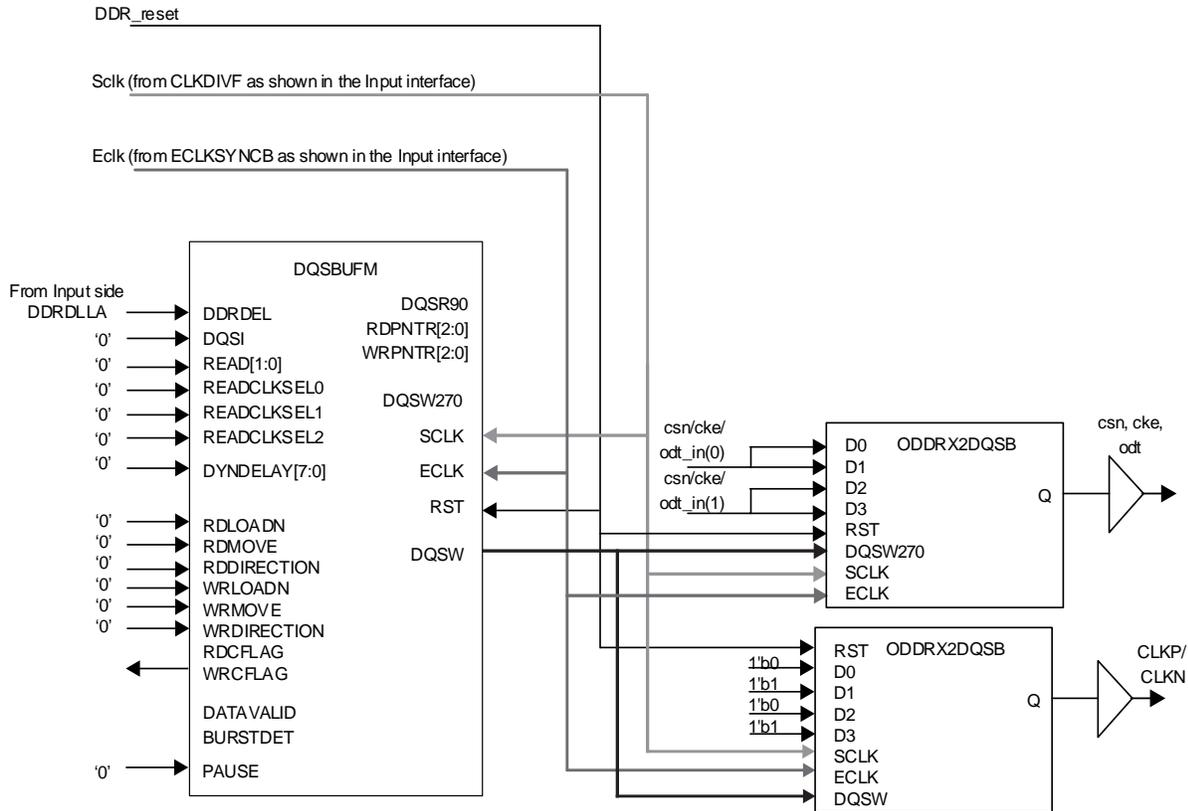

Figure 6.13. LPDDR4 Output for CSN, CKE, and CLOCK Generation
- ODDR2DQSB with D0 and D1 tied together and D2 and D3 tied together to generate CSN, CKE signals (Figure 6.13).